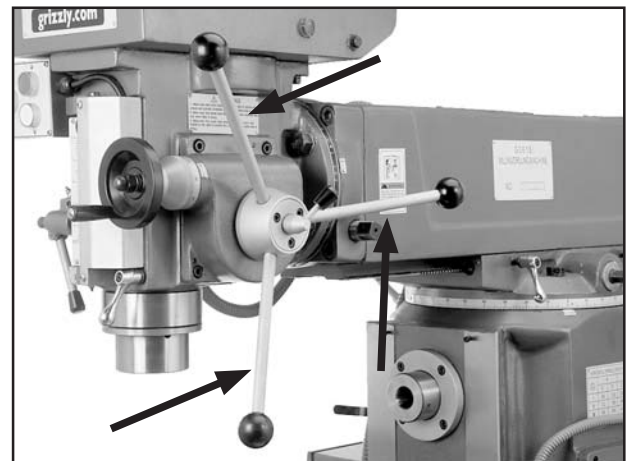

Figure 15. Large downfeed handles installed.
2. Thread and tighten the large downfeed handles into the downfeed hub, as shown in Figure 15.